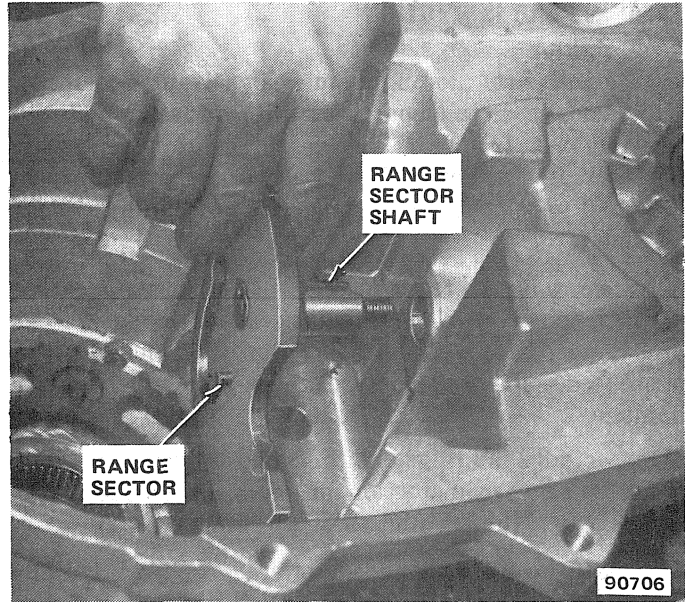

Fig. 2D-63 Range Sector Installation
- (7) Install new sector shaft O-ring and retainer in shaft bore in case.
- (8) Install range sector in front case (fig. 2D-63). Install operating lever on sector shaft and install lever attaching washer and locknut on shaft. Tighten locknut to 17 foot-pounds (23 N•m) torque.
- (9) Install detent spring, ball and retaining bolt in front case detent bore. Tighten bolt to 22 foot-pounds (30 N•m) torque (fig. 2D-10).
- (10) Move range sector to last detent position.
- (11) Assemble annulus gear and range fork. Install assembled fork and gear on and over planetary assembly. Be sure annulus gear is fully meshed with planetary pinions (fig. 2D-59).
- (12) Insert range fork lug in range sector detent slot (fig. 2D-21).